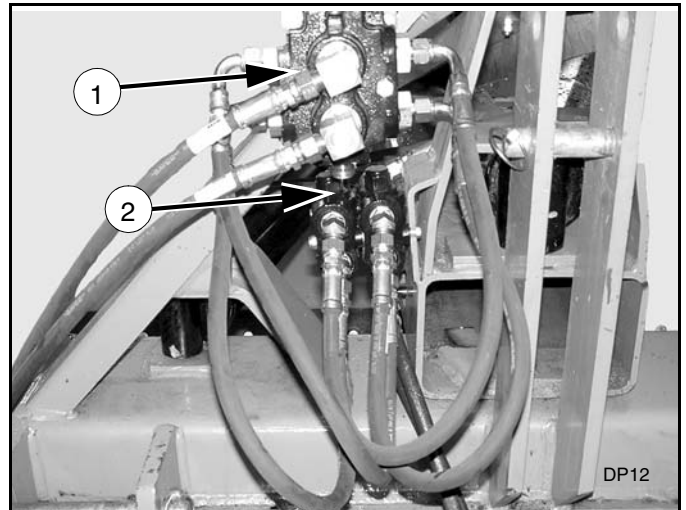
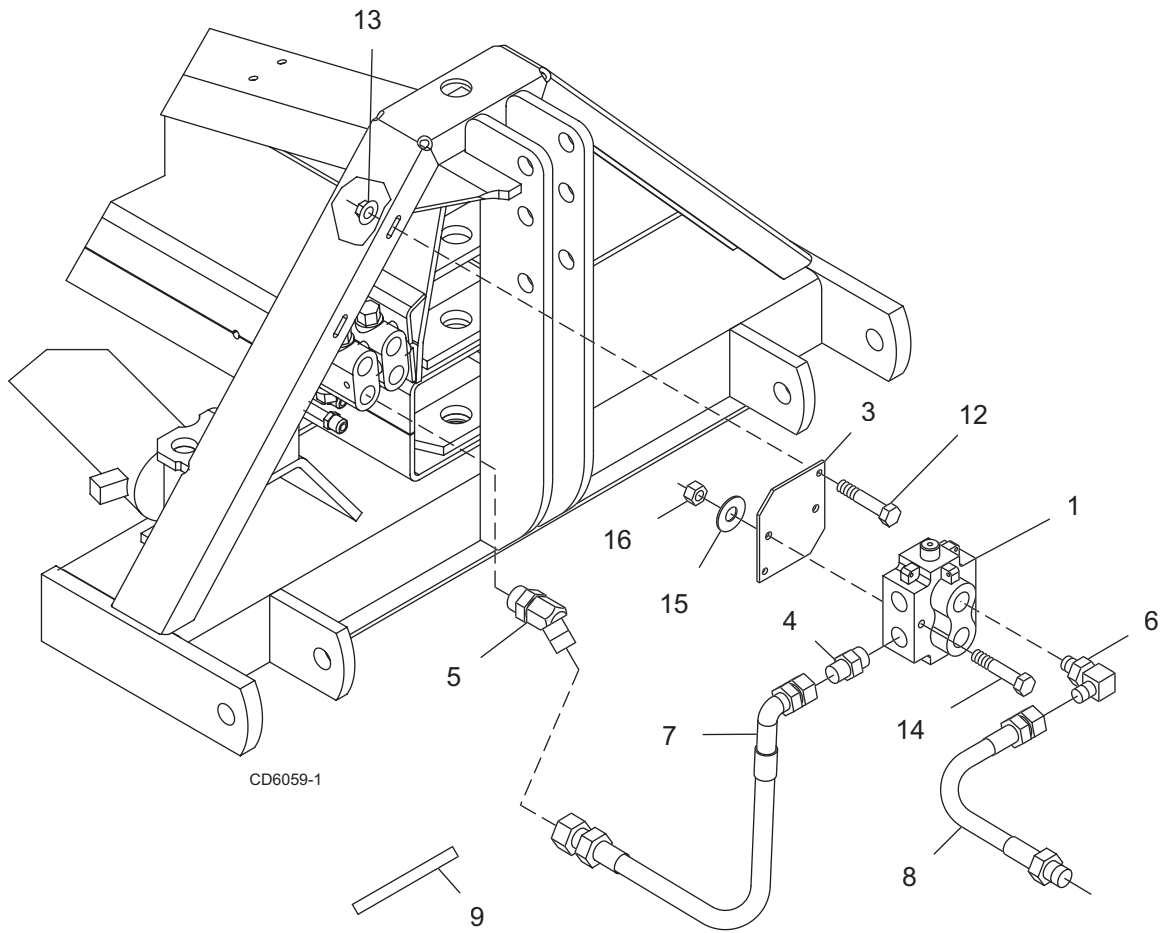
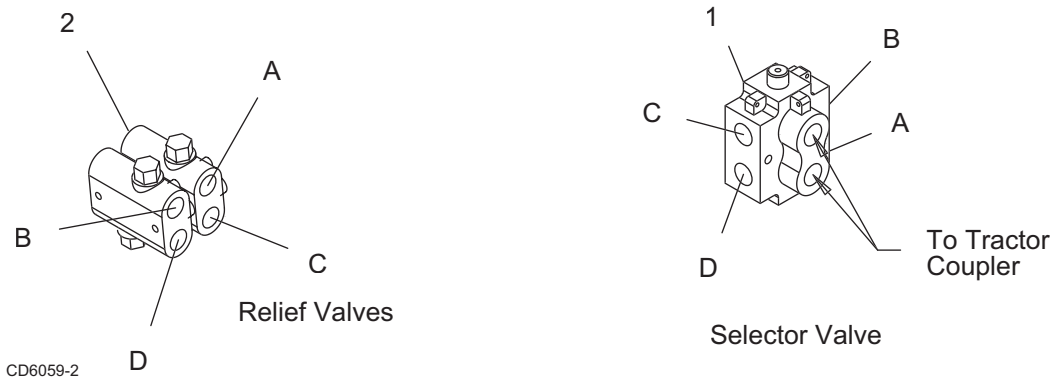

Figure 24 Selector Valve Installed
Figure 26 Selector Valve Installation
Figure 27 Selector Valve Hose Connection
Refer to Figure 24, Figure 26, & Figure 27.
2. Install four 45-degree elbows (5) into relief valve ports.
3. Insert two cap screws (12) through mounting plate (3).
4. Attach selector valve (1) to valve mounting plate (3). Secure with two cap screws (14), flat washers (15), and lock nuts (16).
5. Attach valve mounting bracket to A-Frame using previously installed cap screws (12) and lock nuts (13).
6. Install four adapters (4) into the side ports of the selector valve.
7. Install two elbows (6) into the front ports of the selector valve.
8. Attach 90-degree end of 28" hoses (7) to the four adapters (4) in the side ports of the selector valve.
9. Attach straight end of 28" hoses (7) to the four 45-degree elbows (5) in the front of the relief valve ports. See Figure 27 for correct hose connections.
10. Attach two 66" hoses (8) previously removed to the two elbows (6) on the front of the selector valve. Secure hoses together using binding strap (9).